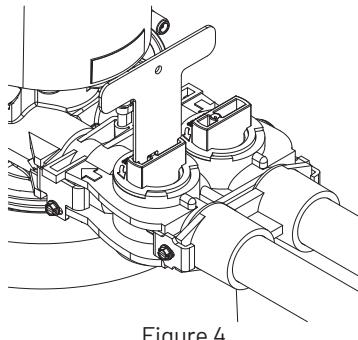

Figure 4
- Ensure that the bypass valve is in bypass position. The valve handles should be perpendicular to the pipes (see figure 4).